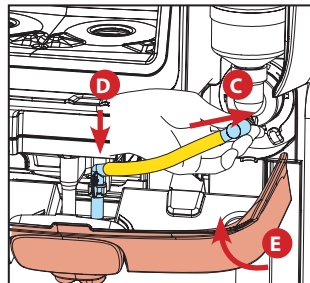

Fig.5
4. Replace the tube on the mixer bowl (C), and snap the outlet nozzle on the mixing tray. Close the panel (E) and the dispenser will automatically return to normal dispensing functions. (See Fig.5)